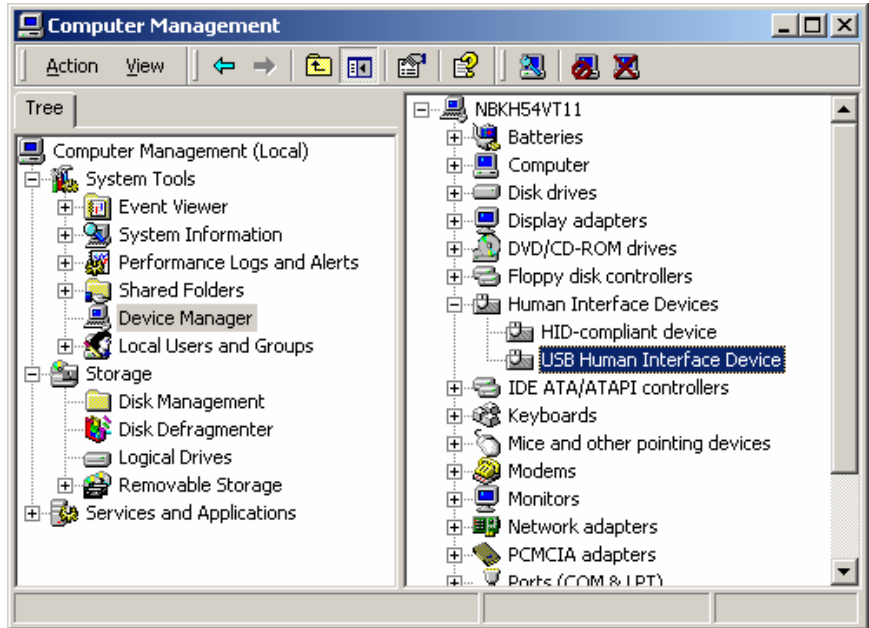

FIGURE 17. SCREEN SHOT OF THE COMPUTER MANAGEMENT FOLDER
2. Select the Device Manager and the Human Interface Devices folder leads to the window in Figure 17.